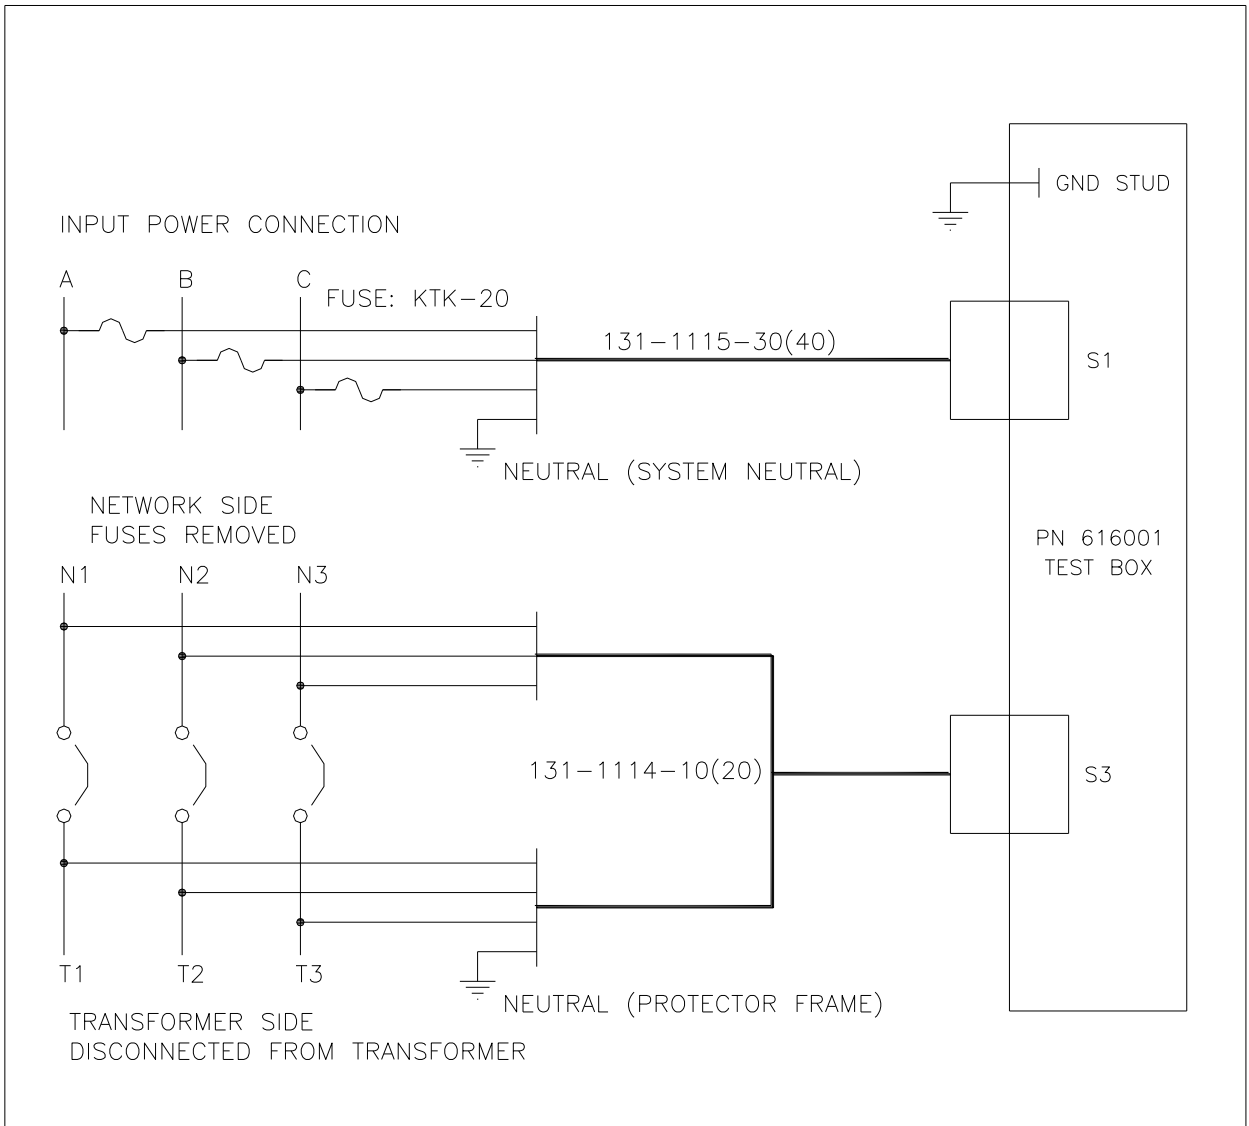

Figure 2: Test Box Connections
- E. Connect the Test Box to the protector and system power as shown in Figure 2